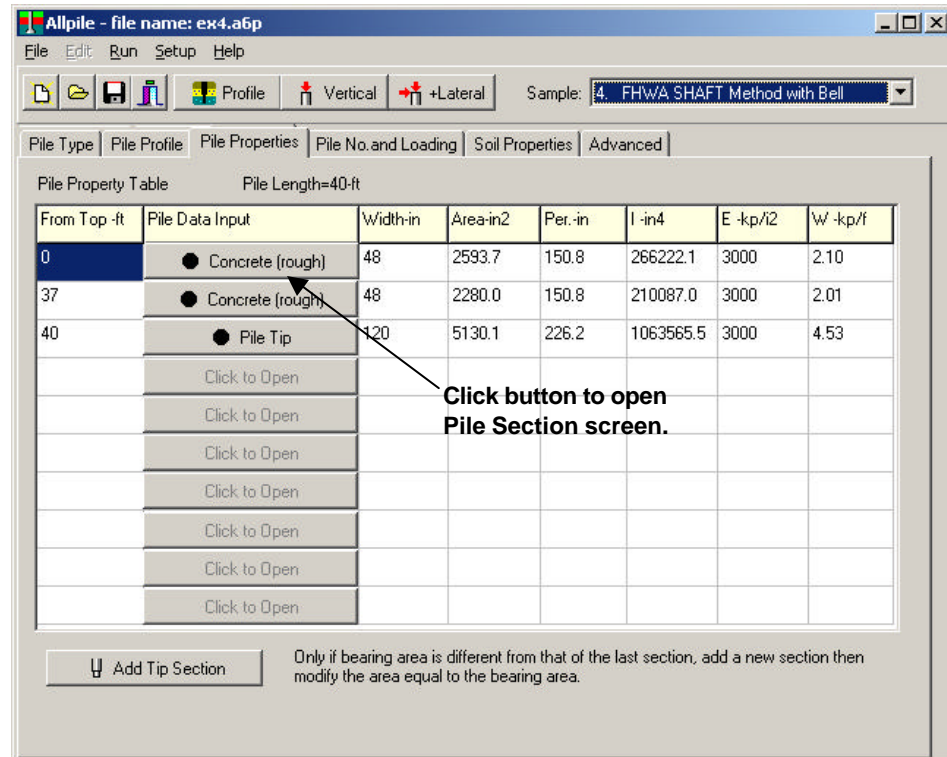
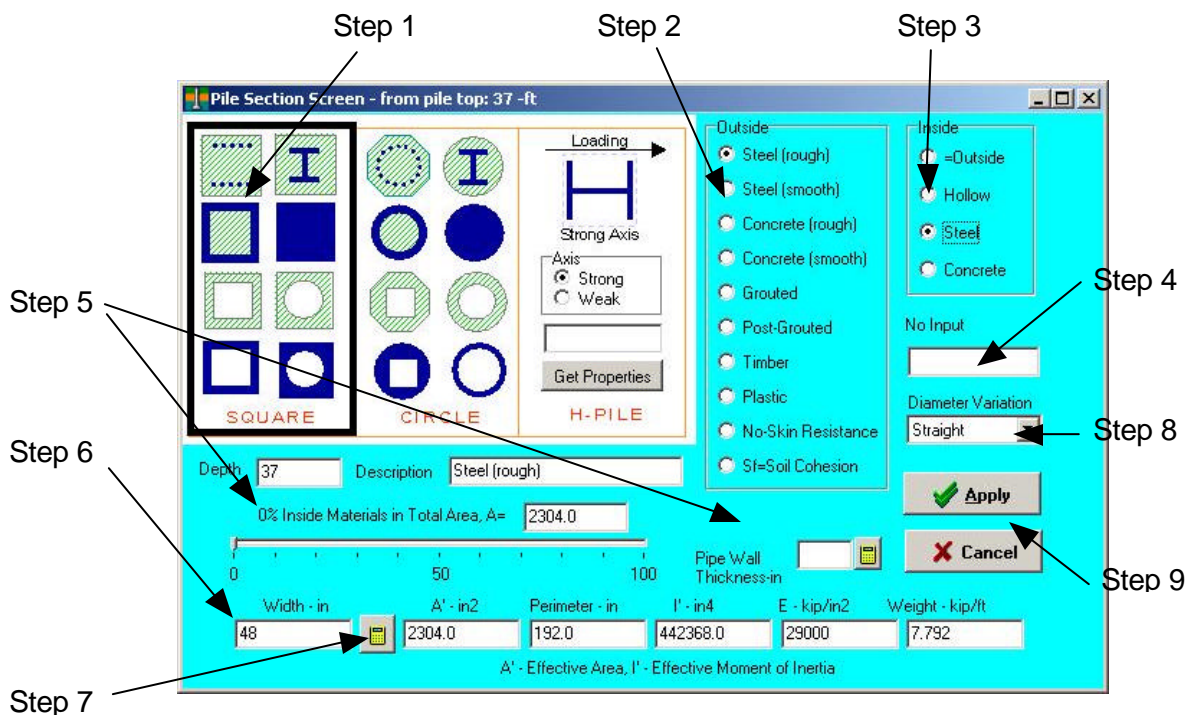

Figure 4-4. Pile Properties Page and Pile Property Table
Figure 4-5. Pile Section Screen
The edit menu will be functional when the Pile Properties Table is active (Figure 4-4) or Soil Property Table is active (Figure 4-9).
The table on the Pile Properties Page (Figure 4-4) allows you to choose the pile property. Ten different sections can be defined along the length of the pile. If the pile has a uniform section, you only need to input the first row. You should input all the data through the **Pile Section** screen shown in Figure 4-5 by clicking on the buttons of the **Pile Property Table** Figure 4-4.
- Pile Data Input** Press the button in this column to select details from the Pile Section screen (Figure 4-5). You should input all the pile property data on the Pile Section screen instead of on the Pile Properties table.
The tip section screen is different from the overall section screen as shown in Figure 4-5. A tip section uses total area,  $A$ , instead of the effective Area,  $A'$ .
Described below are seven general steps for inputting section properties. When you are done, press [Apply] button to save the data. If you press [Cancel], the data will not be saved and the Pile Property table (Figure 4-4) will not be changed. If you have selected Shallow foundation as the pile type, you will get the shallow foundation window for parameters input instead of the one below. Refer to Section 4.4.4.
If you are satisfied with your data, press [**Apply**] to close the screen and post the data to the Pile Property table (Figure 4-4). [**Cancel**] closes screen but does not save the data.
**If you already have data in Pile Property Table (Fig 4-4) and do not want data to be overwritten by Pile Section Screen (Fig 4-5), then you should click on [Cancel]**